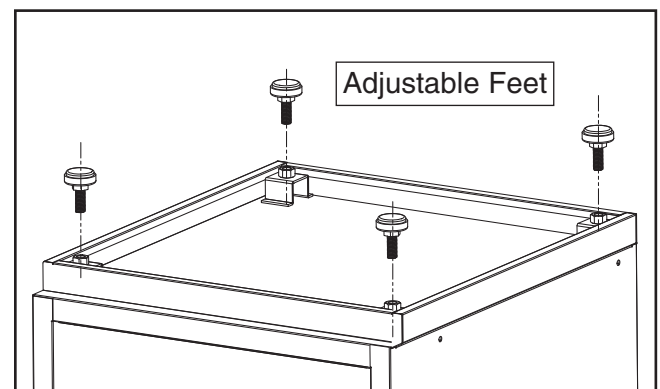

Figure 2. Location of adjustable feet.
1. With help from another person, lay cabinet upside down on floor (see **Figure 2**).
2. Install one adjustable foot in each corner (see **Figure 2**).